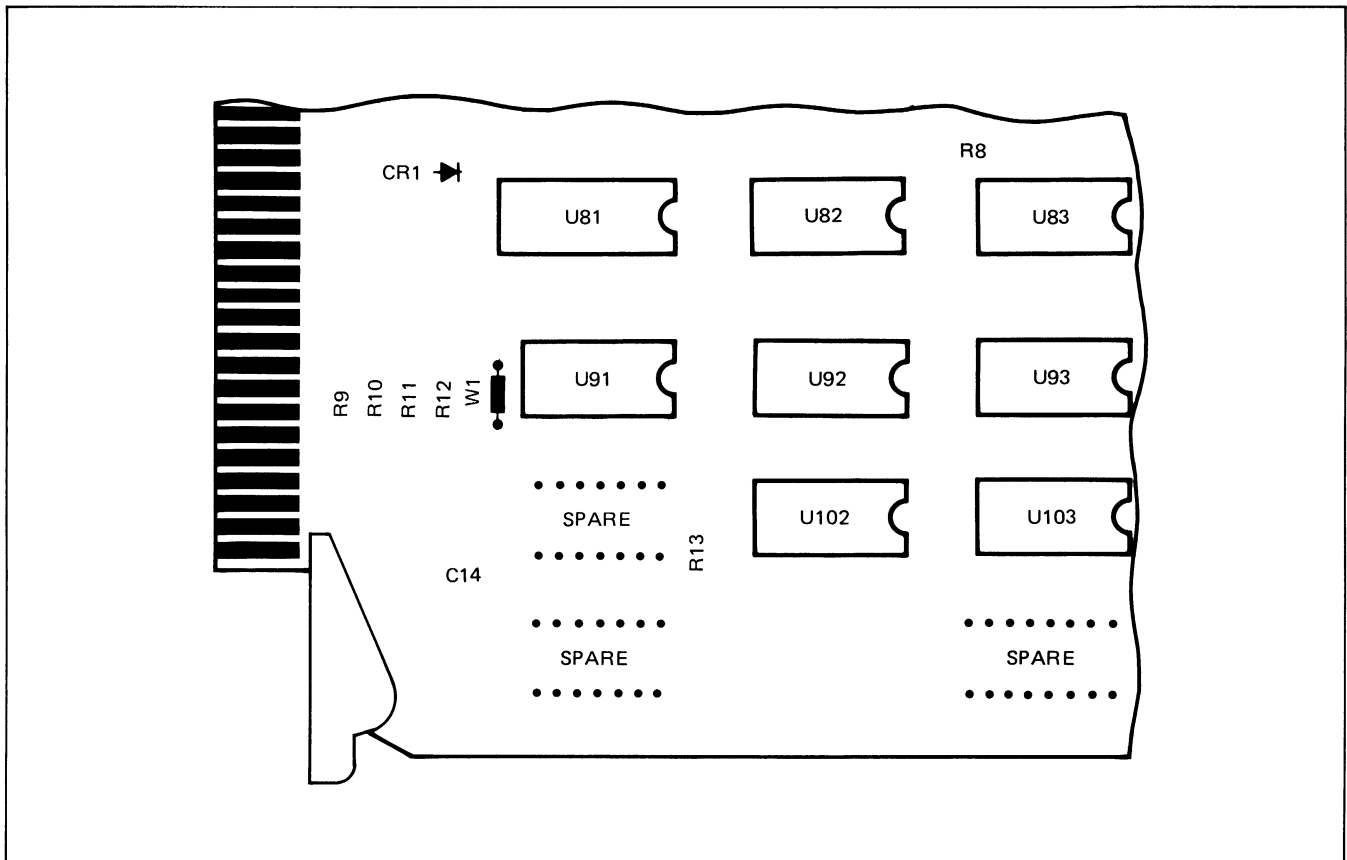

Figure 3-2. Computer Compatibility Jumper W1 Location
- b. If WCS is to be installed in an M-Series computer, remove computer compatibility jumper W1 (see figure 3-2). If WCS is to be installed in an E/F-Series computer, jumper W1 remains installed.